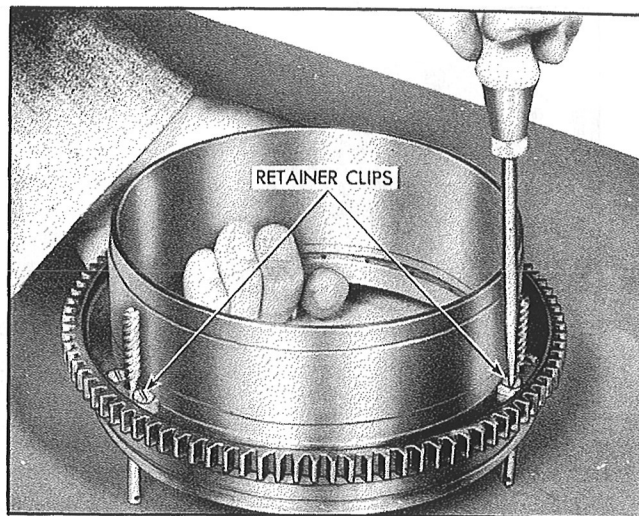

Figure 180—Removal of Control Screw Retainer Clips, Model A632S-A1, -A2
c. Remove the three control screw retainer clips by unscrewing the attaching screws from each. See Figure 180.